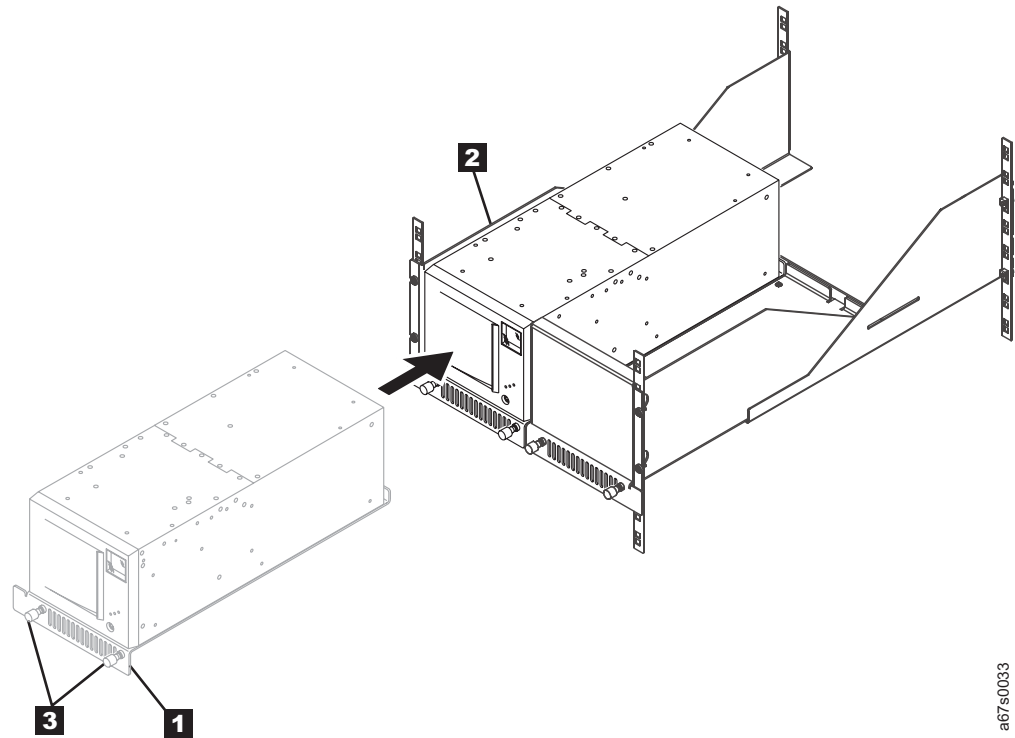

Figure 50. Installing the sled onto the rackmount tray
1. Slide the sled (**1** in Figure 50 on page 121) into position on the rackmount tray **2**.